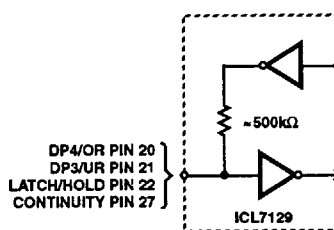

FIGURE 6. "WEAK OUTPUT"
Four pins of the ICL7129 can be used as either inputs or outputs. The specific pin numbers and functions are described in the Pin Description table. If the output function of the pin is not desired in an application it can easily be overridden by connecting the pin to  $V_+$  (HI) or DGND (LO). This connection will not damage the device because the output impedance of these pins is quite high. A simplified schematic of these input/output pins is shown in Figure 6. Since there is approximately 500k $\Omega$  in series with the output driver, the pin (when used as an output) can only drive very light loads such as 4000 series, 74CXX type CMOS logic, or other high input impedance devices. The output drive capability of these four pins is limited to 3 $\mu$ A, nominally, and the input switching threshold is typically DGND + 2V.